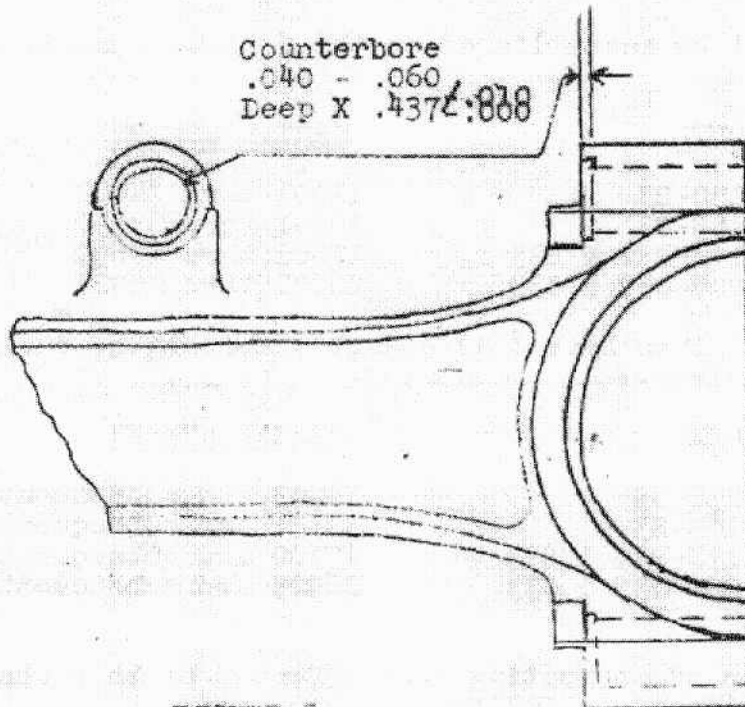

FIGURE 2
2. Counterbore the blade half of the connecting rod at the bolt head end of both bolt holes to a diameter of  $.437 \pm .010$  inches and depth of .040-.060 inch in accordance with Figure 2.